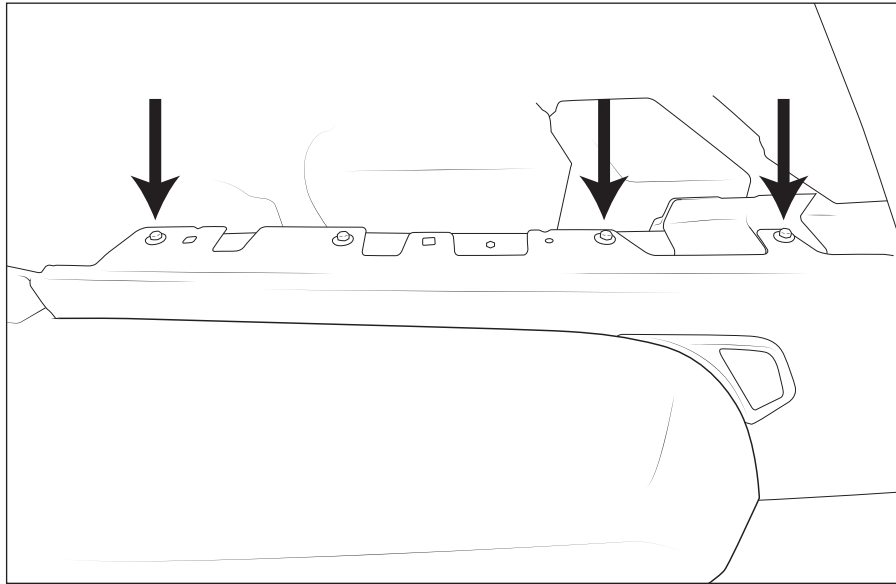

Figure 9
2. Remove the two rear and one front fender bolts (fig. 9) to prepare the vehicle for mounting the snorkel. These will all be reused.